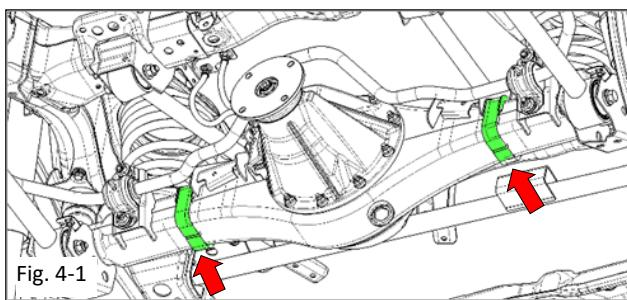

Fig. 4-1
- Place bracket rubber sleeve over rear axle on both LH and RH sides shown in green (Fig. 4-1).